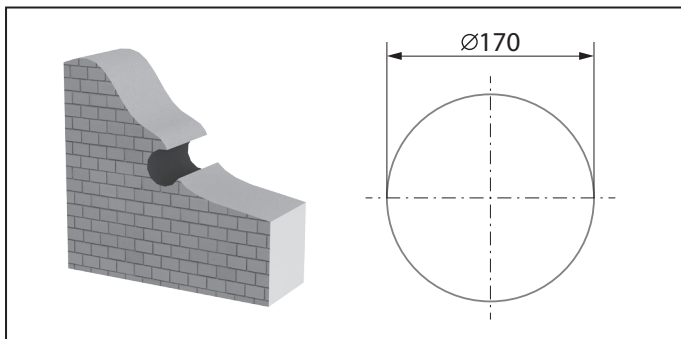

Fig. 7. Size of the core hole
1. Prepare a round core hole through the outer wall. The size is shown in the figure 7.